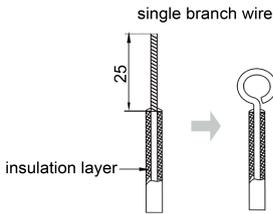

Fig 5.1
- (1) The connection of wire (as shown in Fig 5.1).